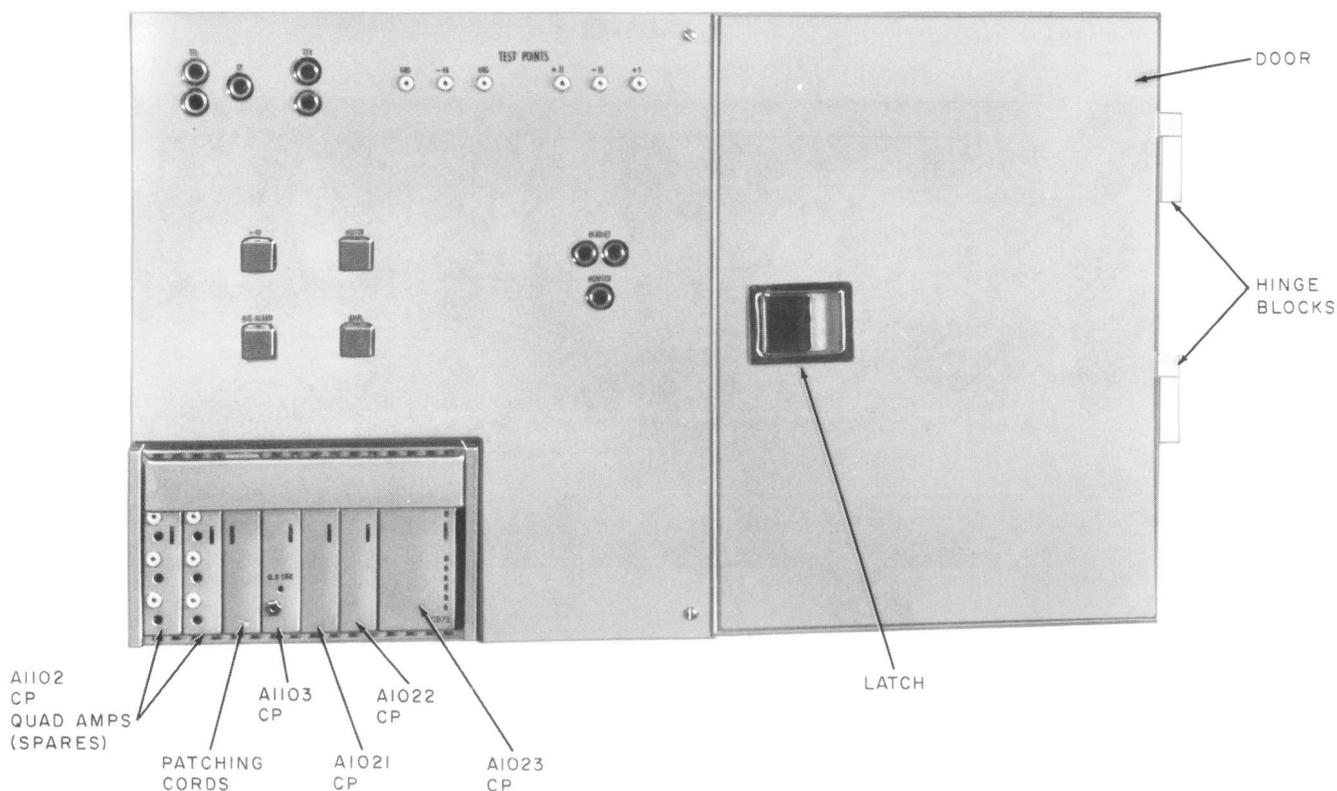

Fig. 3—Storage Module (For MSS Only)
- (1) Check that the -48, MOTOR and AMPL switches on the storage module Fig. 3 are off. (Lamps lighted.)
- (2) Check that the AUD ALARM switch on the storage module is off. (Lamp not lighted.)
- (3) Depress the -48 switch on the storage module. The -48 lamp on the storage module extinguishes.
- (4) Using a VOM, check the voltages at the TEST POINTS on the storage module. The voltages should be as marked.
- (5) Depress the MOTOR switch on the storage module. The MOTOR lamp on the storage module extinguishes. The motor starts and the drum rotates.
- (6) Depress the AMPL switch on the storage module. The AMPL lamp on the storage module extinguishes.
- (7) The announcement system is now in operation.
- (8) If other announcement system is to be started-up, repeat Steps 1 through 7 for other announcement system.◆
- (1) Notify proper supervisory personnel and receive approval for shutdown of the frame.
- (2) Depress the AMPL switch on the storage module Fig. 3. The AMPL lamp on the storage module lighted.
- (3) Depress the MOTOR switch on the storage module. The MOTOR lamp on the storage module lighted. Motor stops.
- (4) Depress the -48 switch on the storage module. The -48 lamp on the storage module lighted. The CSRAF is now out of service.